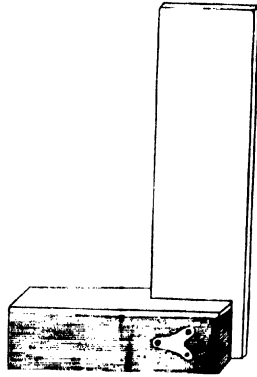

Fig. 25.
**Try Square.**—This consists of a rectangular steel blade firmly fixed at right angles into a hard piece of wood (called the *stock*) (Fig. 25.)